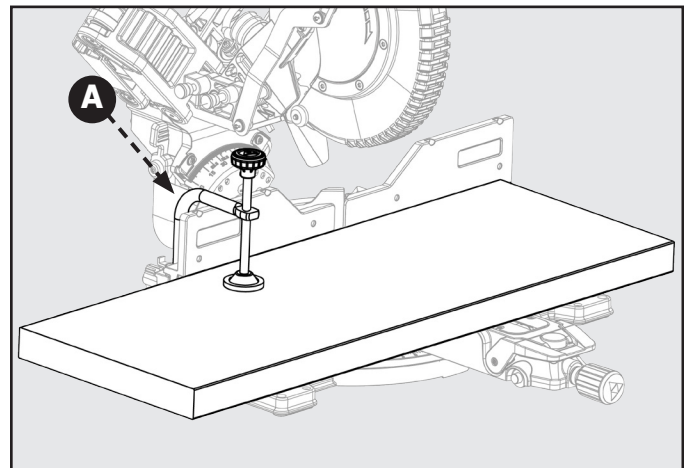

Figure 15
When cutting wide work pieces, such as 2 in. X 12 in., clamp the workpiece to the work table using a work clamp (A) as shown in Figure 15.